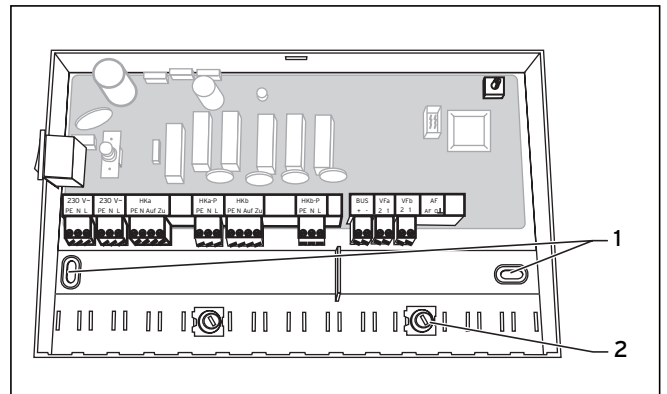

Fig. 4.2 Fitting the mixer module VR 60
- Fix all cables with the accompanying cable clamps (Fig. 4.2 (2)).